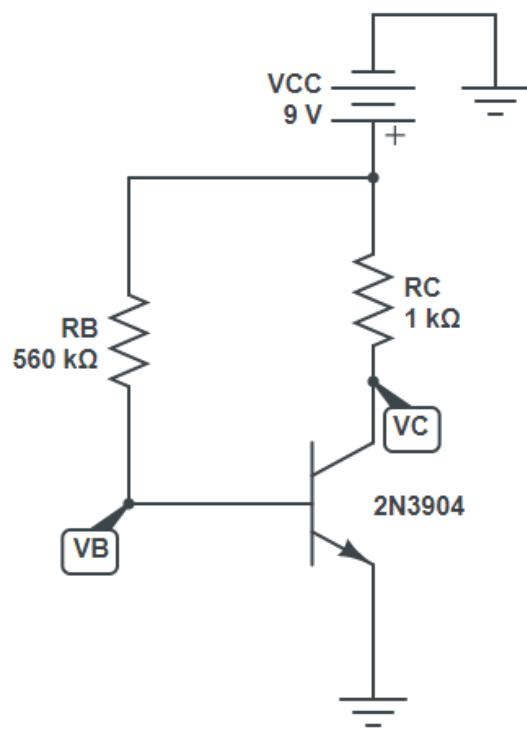
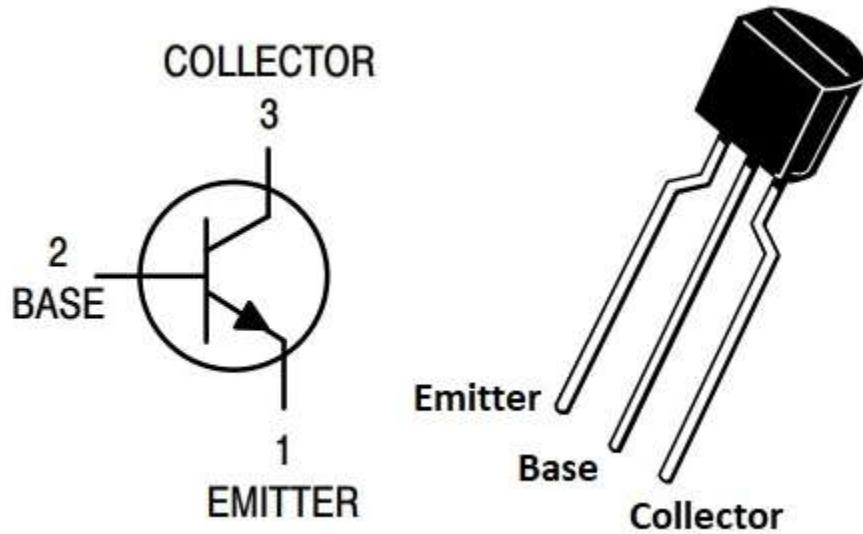
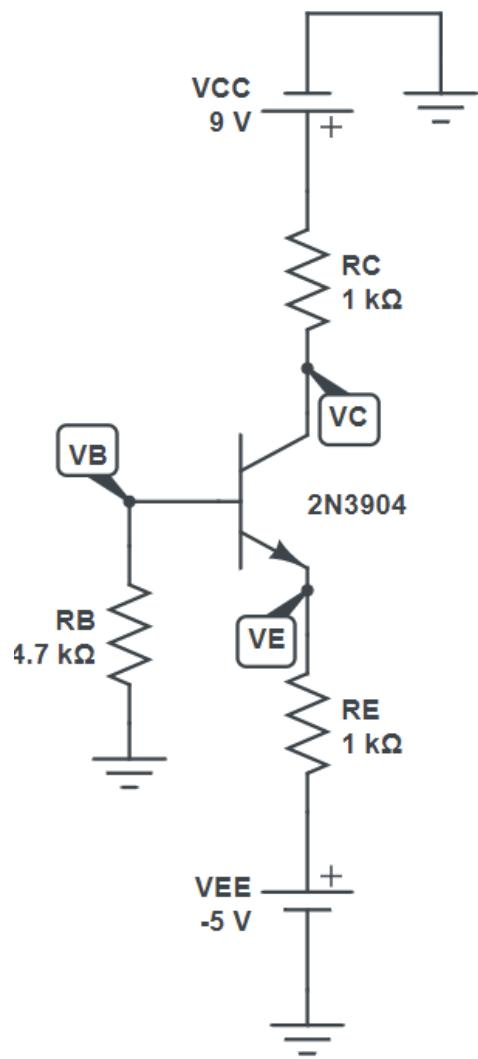
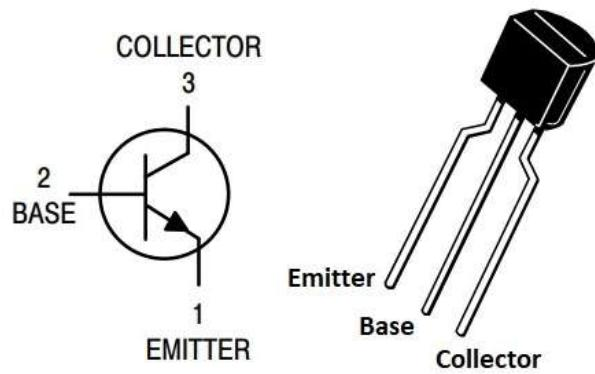

FIGURE 6.1-1: Schematic diagram of circuit
FIGURE 6.1-2: 2N3904 pin diagram
FIGURE 6.2-1: Schematic diagram of circuit
FIGURE 6.2-2: 2N3904 pin diagram
Build circuits in Figures 6.1-1 and 6.2-1 in PSpice. Measure V_B , V_{CE} , I_B , I_C and β_{DC} values for the Transistor Base Biasing circuit shown in Figure 6.1-1. Measure V_B , V_E , V_C , V_{CE} , I_B , I_C and β_{DC} for the Transistor Emitter Biasing circuit shown in Figure 6.2-1. Calculate only the expected values for Tables 6.1-1, 6.2-1 and 6.2-2 using Useful Formulas at the end of this lab manual.
1. Wire the circuit shown in the schematic diagram in Figure 6.1-1 and apply power to the breadboard. The pin diagram for the 2N3904 transistor is shown in Figure 6.1-2.
1. Wire the circuit shown in the schematic diagram in Figure 6.2-1 and apply power to the breadboard. The pin diagram for the 2N3904 transistor is shown in Figure 6.2-2.
4. In the Emitter Biasing circuit in Figure 6.2-1, what happens if the current gain increases?